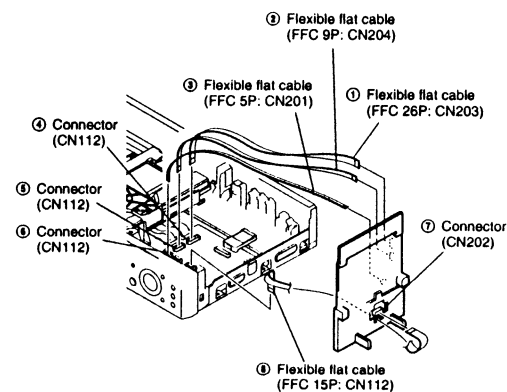

Fig. 4
- 5) Set the four flexible flat cables as shown in Fig. 4.